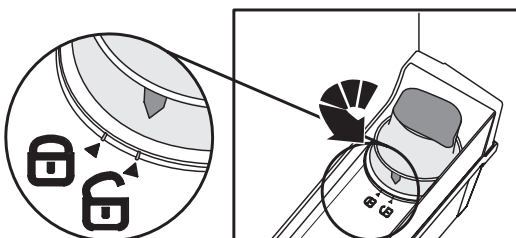

Fig 3
- Unlock the whole filter turning it anticlockwise (Fig 3);
(You can follow the procedure described in Carbon filter activation and Filter installation - Fig. 3, 4, 5, 6, 7, 8).